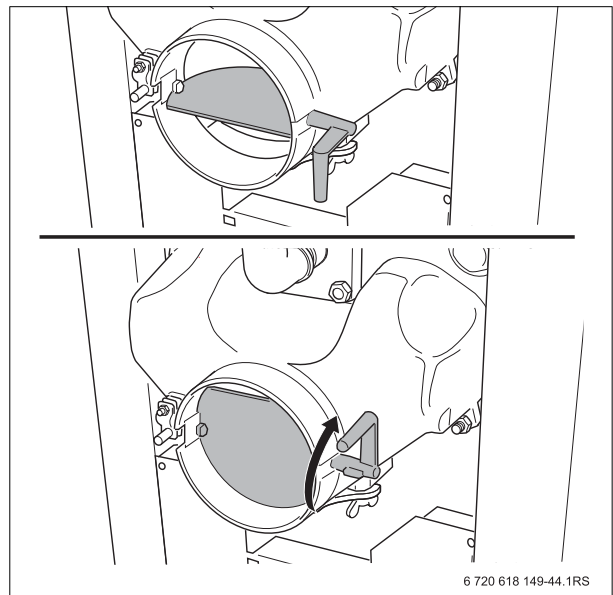

Fig. 13 Exhaust flap (top: open; bottom: closed)
- In order to reduce the smoke formation in the boiler room during re-filling, open the exhaust flap (→ Fig. 13 above).
- Close the fuel filler door [1] and exhaust flap (→ Fig. 13 below).